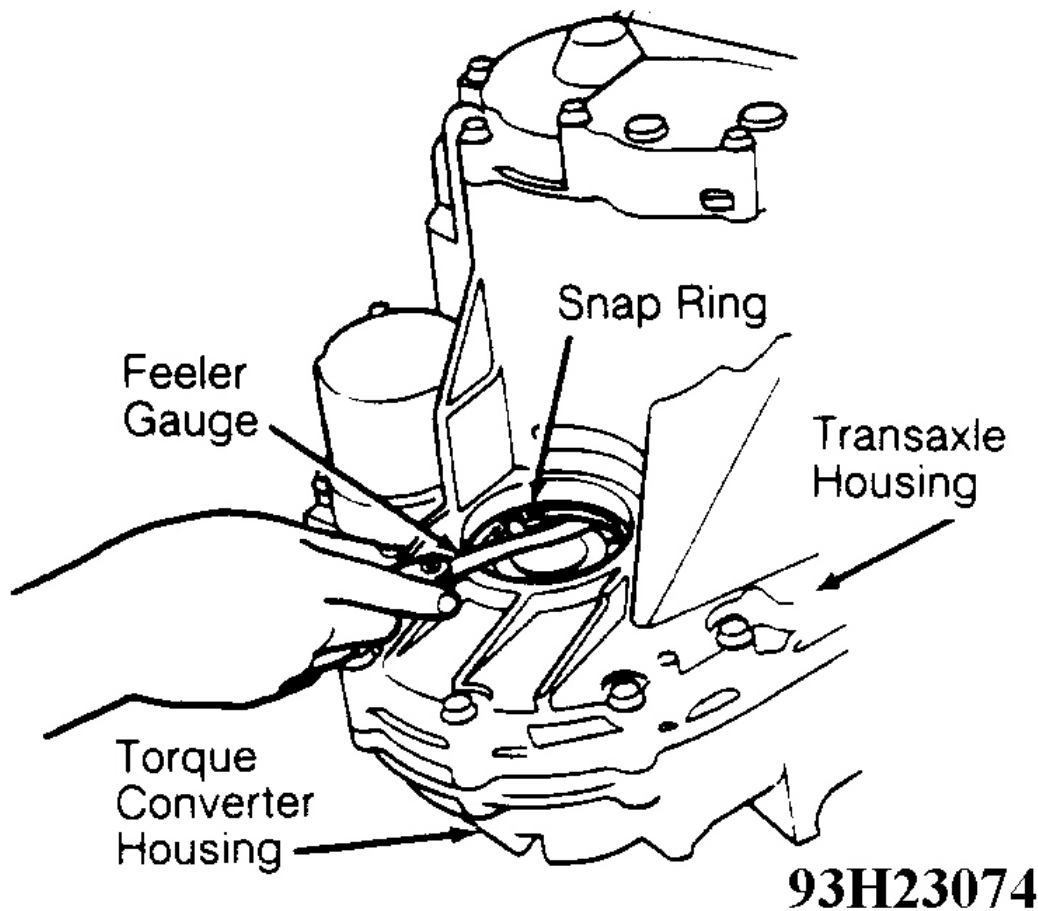

Fig. 37: Checking Differential Bearing Side Clearance
5. Using feeler gauge, measure differential bearing side clearance between snap ring and bearing on transaxle housing. See **Fig. 37** . Replace snap ring if differential bearing side clearance exceeds .006" (.15 mm). Different thickness snap rings are available. See the **SNAP RING SPECIFICATIONS** table. Recheck differential bearing side clearance. Remove transaxle housing and differential assembly.